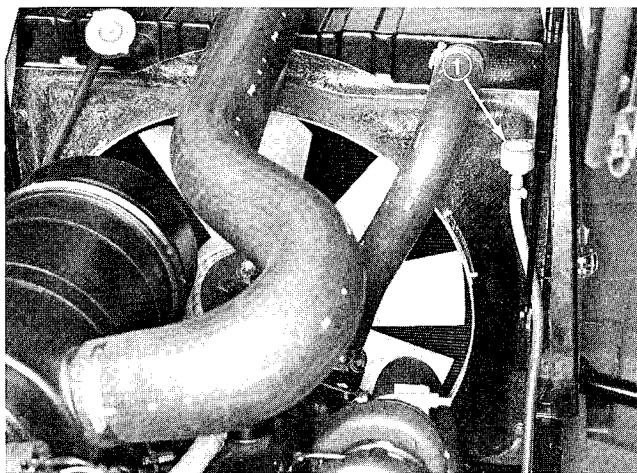

Figure 49
2. Breather is located along right side of radiator (Fig. 49). Clean area around it, unscrew it with a wrench and install replacement.